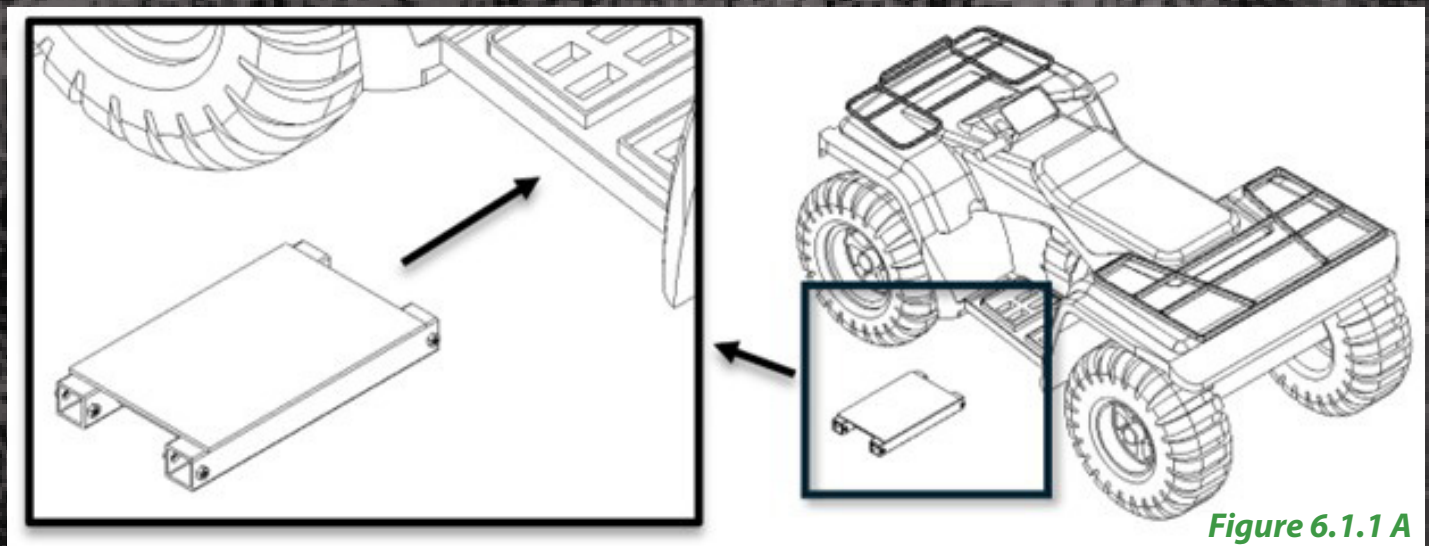

Figure 6.1.1 A
- Secure the **ATV & UTV Universal Mount** to the structural frame using appropriate hardware. See **Figure 6.1.1 A**.